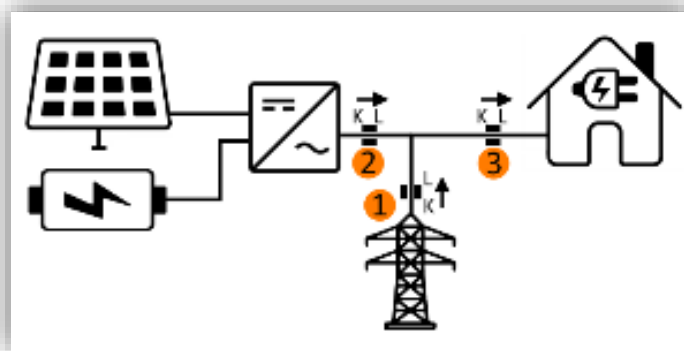

Figure 103. Installation diagram with solar panels and battery
This section defines the points of the installation where the measurements must be taken in order to have a correct operation of the global tab of the energy monitor. Figure 103 shows the diagram of an installation with solar panels and battery:
- **Installation without solar panels or battery:** only point 1 shown in the diagram in Figure 103.